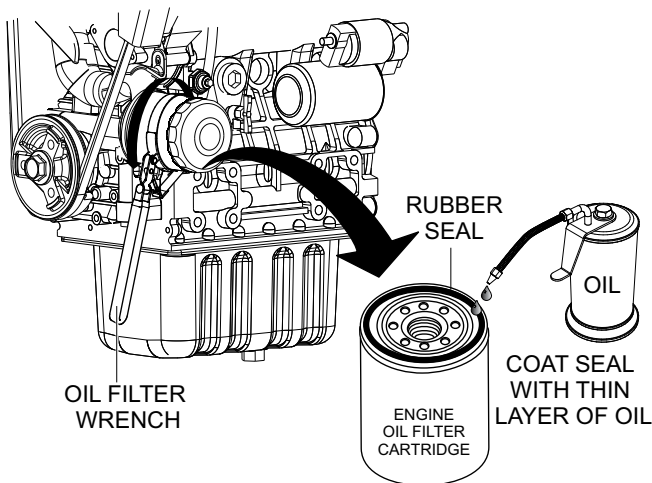

Figure 62. Engine Oil Filter Removal
2. Using an oil filter wrench (Figure 62), remove engine oil filter.
3. Coat the rubber seal (gasket) surface of oil filter (Figure 62) with clean 15W-40 engine oil.